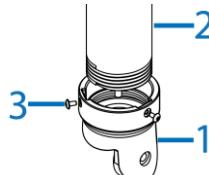

Figure 7
1. Place the pendant/pole mount adaptor (1) (Figure 7) around a standard 1 ½ " Male NPT threaded water pipe (2) (Figure 7) and securely attach the two M3x0.5P (L = 6mm) screws on the pendant mount adaptor with the T10 security Torx wrench.